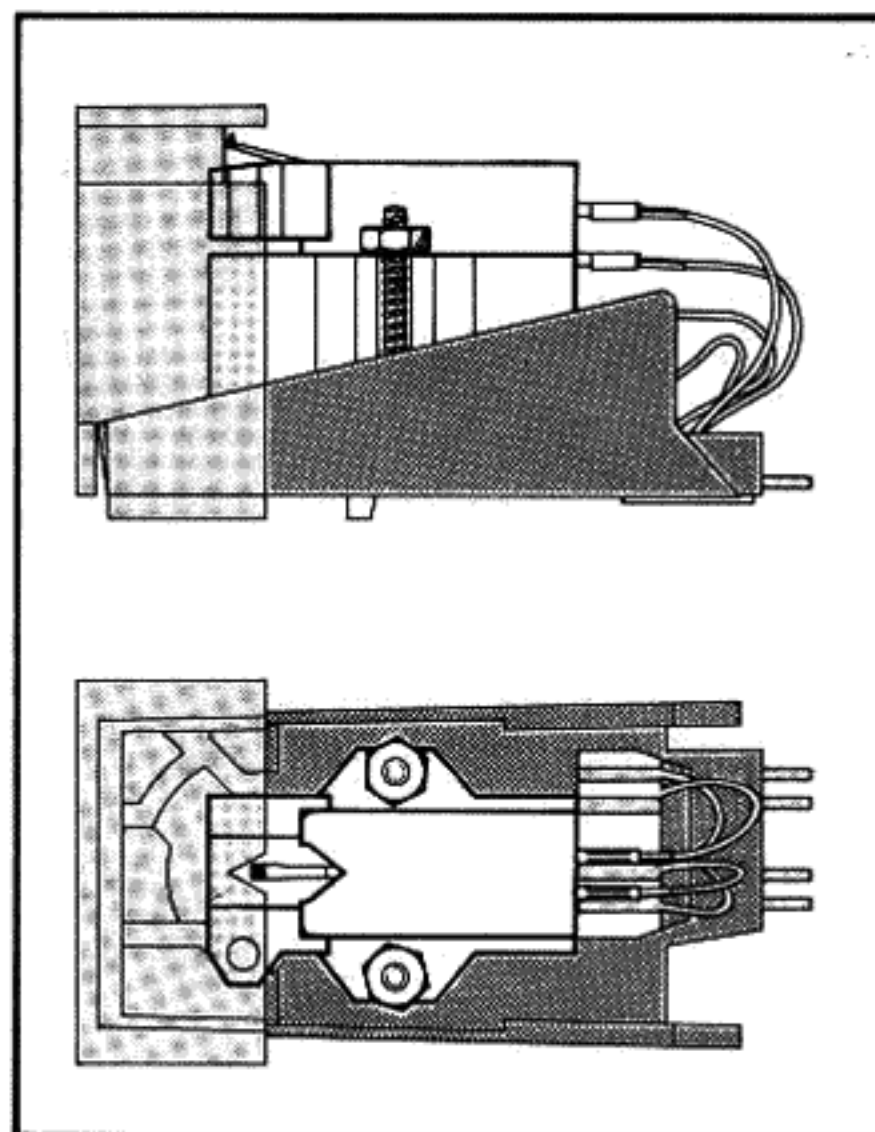

Fig. 12
1. To mount the cartridge, detach the cartridge holder ③ from the tonearm by pressing the tonearm lift backward ⑤, while holding the cartridge holder with your hand to prevent its falling down when the lock is released.
2. Using the hardware provided, mount the cartridge on the cartridge holder. Use the gauge to make sure that the cartridge is mounted in the geometrically proper place in the cartridge holder (fig. 12).